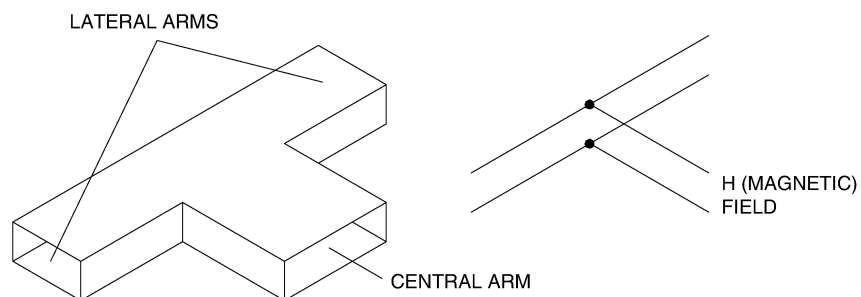

Figure 1. The H-plane tee, or shunt tee.
- The **H-plane tee**, or shunt tee, is in the plane of the **magnetic** field (Figure 1). When a signal is fed into the central arm, it is split into two even signals that exit the tee, via the lateral arms, **in phase** with each other.